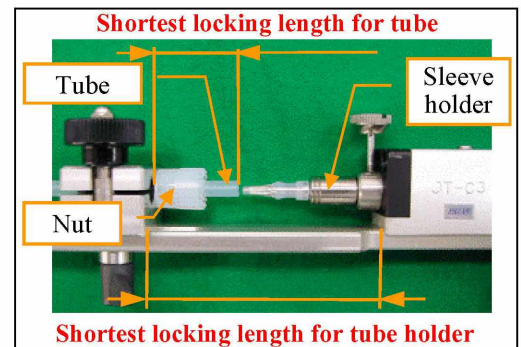

Fig. 43 - Shortest locking length
- Loosen the knob located at the bottom of the tube holder and then lock the tube holder at its shortest locking length. (See Fig.43 and Table 17) Open the clamp and install the tube with union nut passing through it in the tube holder so that the shortest locking length for the tube (see Fig.43 and Table 17).